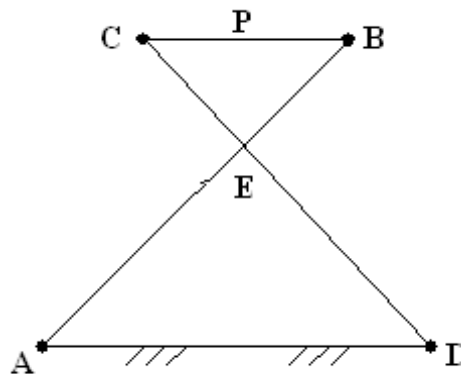

Figure 5
5. Show that for Tchebicheff's straight-line motion shown in figure 5, the point P that bisects the link BC will lie in a straight line parallel to AD. When it is directly above the midpoint of AD, if the proportions of the links are $BC: AD: AB = 1:2:2.5$. [15]